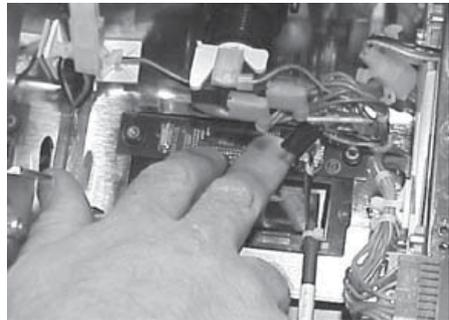
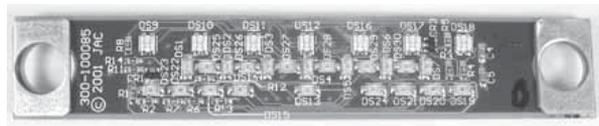

Figure 3
Figure 4
8. Position the circuit board over the bosses on the bezel (see Figure 3). If necessary, use the 2 washers shown in Fig. 4 to avoid stressing the board.